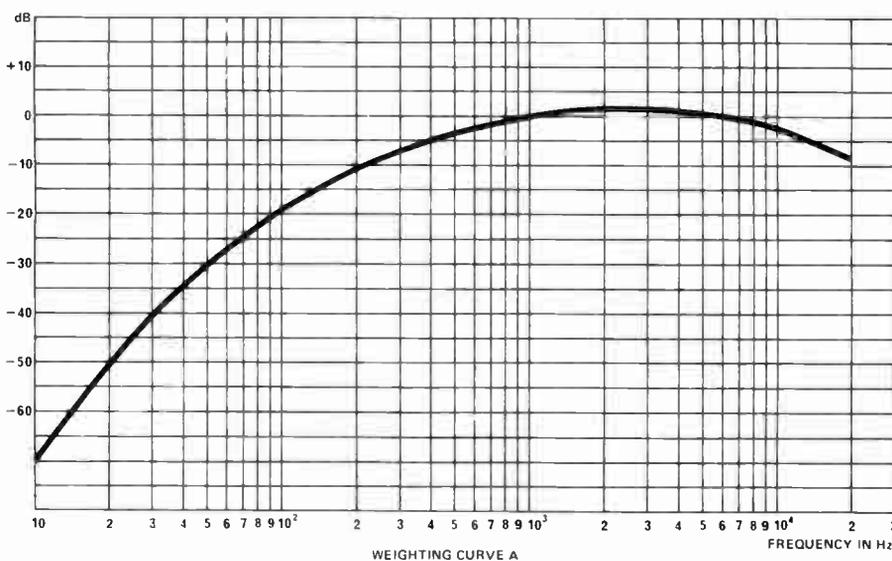

Fig. 4. Curve of 'A' weight response.
6. In the ac mode select 'A'-weight and apply a 1 kHz signal of sufficient level to obtain a 0 dB indication on the 1 volt range. Vary the frequency over the whole audio range and check that the response as shown in Fig. 4 is obtained.